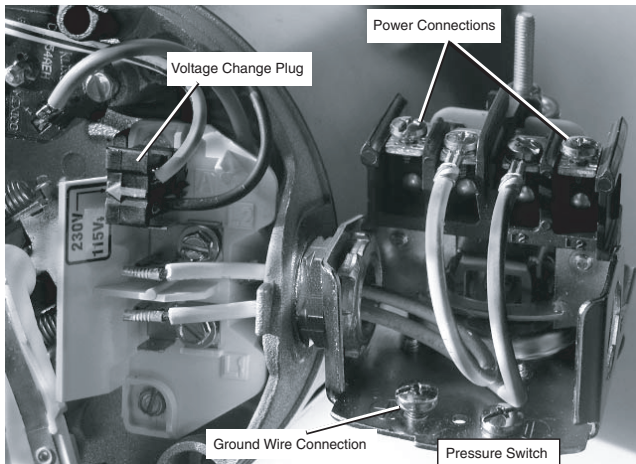

Figure 12: Voltage set to 230 volts, Plug Type
4. Attach the incoming power leads to the two outer screws on the pressure switch as shown in Figure 12.
5. Attach the ground wire to one of the grounding connections, shown in Figure 12.